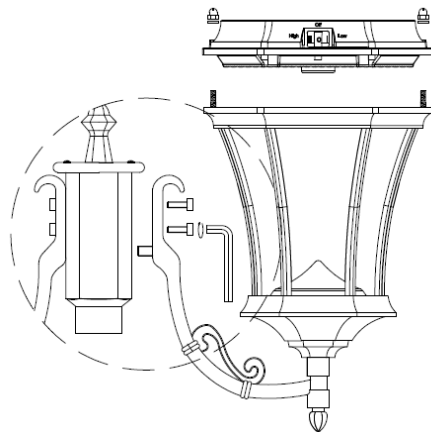

Fig. 2
2. Screw part (D) to part (E). Part (C) to part (D) and part (H) into part (C).
3. Screw bracket (J) into part (H) using the provided screws as shown in Fig. 2.
5. Screw part (K) on top of part (H) or (I).